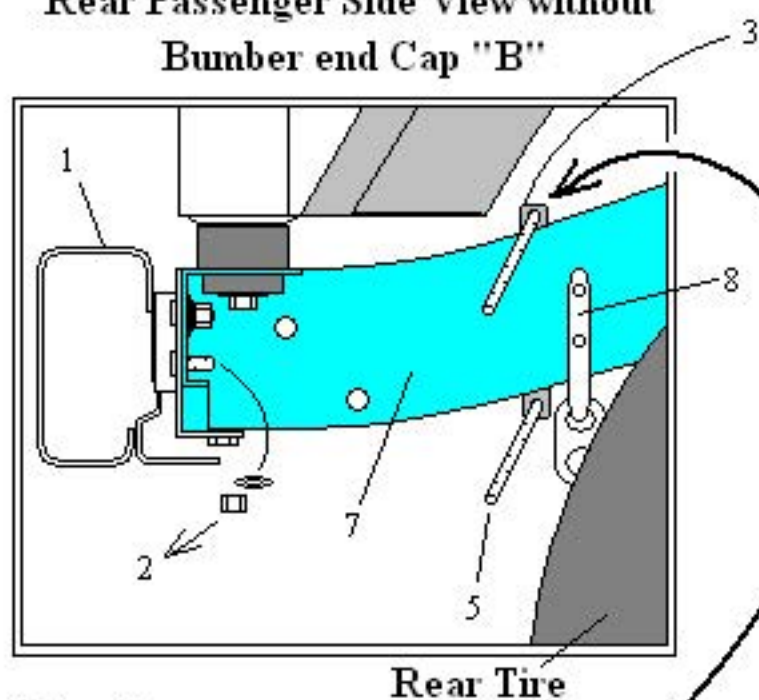

Fig. 2
- 4- Refer to page 3 Fig. 2 remove only the lower nut and washer (2) from the rear bumper (1) as shown. Then remove from your hardware kit one clamp plate (3) and two 4" long stainless steel carriage bolts(5). Thread the 4" long carriage bolts(5) through clamp plate (3) then slide them as a unit behind the passenger side rear body frame (7) as shown in Fig 2 page 3. Keep the clamp plate assembly on the left side or rear of the exhaust tail pipe support hook (8).
- 5- Refer to page 3 Fig. 3 and remove from your hardware kit "Passenger Side" Frame Extension (4). Slide Frame Extension (4) onto exposed rear bumper bolt (2) then slip Frame Extension over both 4" carriage bolts. Thread nut and washer recently removed from bolt (2) of rear bumper (1) back in place over Frame Extension (4) then continue by threading a 3/8" hard washer and 3/8" Nylok nut onto the two 4" carriage bolts holding the Frame Extension (4) in place. Snug down only at this time. Refer back to Fig 2 and tighten nut (2) of rear bumper (1) then continue to Fig. 3 and tighten both nuts and washers (6).